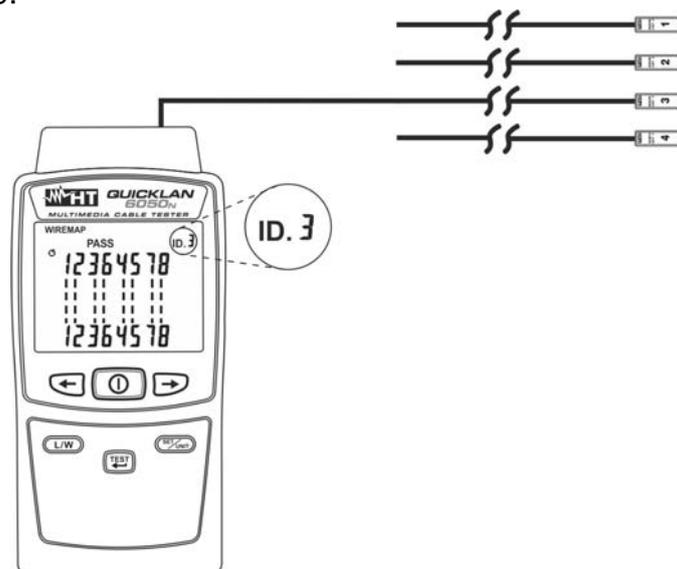

Fig. 9: Connection of the instrument to more remote units
1. Switch on the instrument by pressing the key. ①
4. Connect the end of one of the cables to be tested (e.g.: #3) to the instrument's input connector RJ45 and to the corresponding remote unit (e.g.: #3) using the patch cables as shown in Fig. 9.